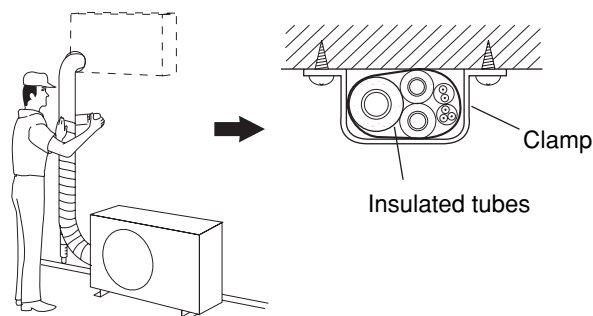

Fig. 55
- Wrap the armoring tape from the bottom of the outdoor unit to the top of the tubing where it enters the wall. As you wrap the tubing, overlap half of each previous tape turn. (Fig. 55)